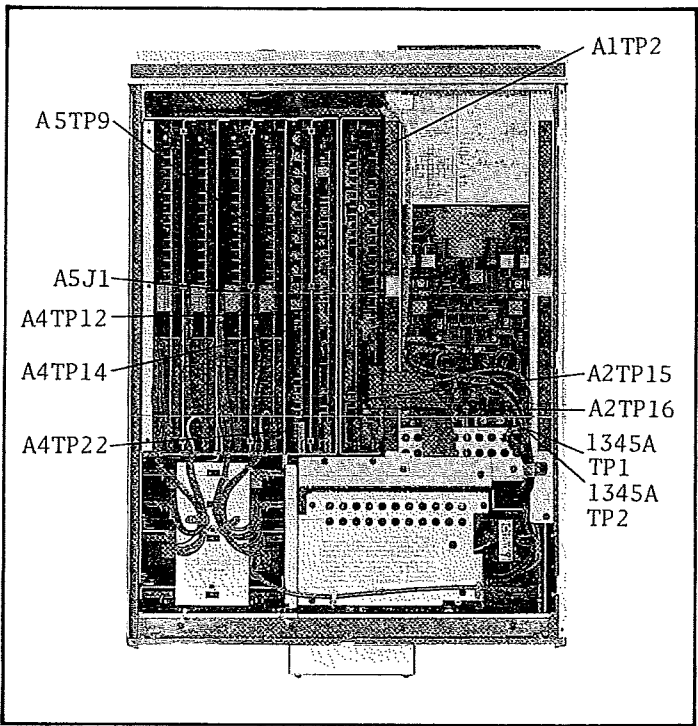

Figure 5-7. Check Point Locations.
1. Connect the DVM HI input to A2TP16 (+5V) (see Figure 5-7 for the location), and the LOW input to the chassis using an alligator clip-to-dual banana plug test lead.
5. Connect the DVM to the points listed in Table 5-3, and verify that the DVM readout at each point is within the limits given in the table. Refer to Figure 5-7 for the locations of the points listed in Table 5-3.